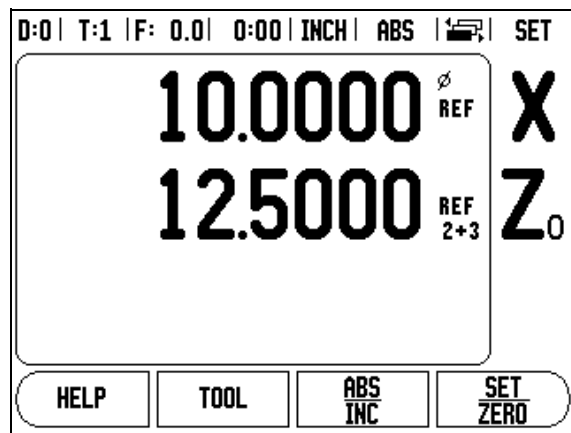

Fig. II.4 Enabling Z Coupling
- ▶ Press the numeric keys associated with the encoder input on the back of the unit. Press the **+** or **-** soft keys to couple a second input with the first. The input numbers are displayed next to the axis label indicating that the position is a coupled position (i.e. "2 + 3"). See Fig. II.4.
To couple the Z₀ and Z axis and have the result displayed on the Z₀ display, press and hold the Z₀ key approximately 2 seconds. The sum of the Z positions will be displayed on the Z₀ display and the Z display will be blanked. See Fig. II.4.